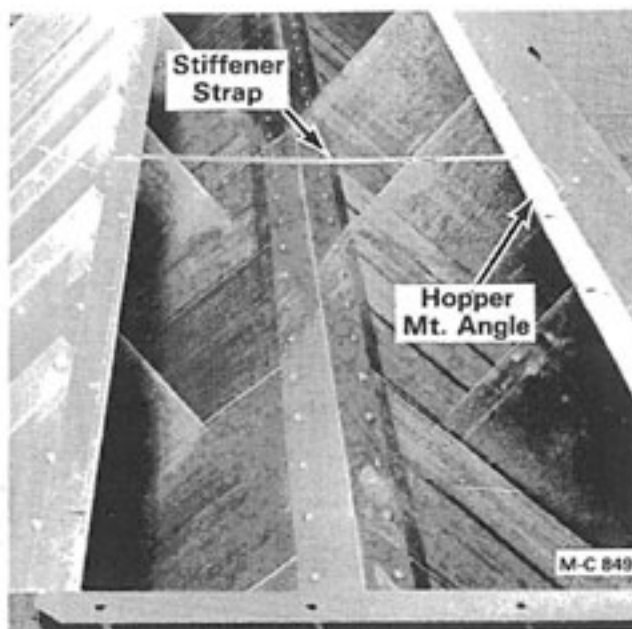

Figure 5
- Place a stiffener strap #1292947 28" (71cm) long across the center of each set of hopper mount angles bolted to the top of the outer screens. A 570/670/690 dryer requires (2) straps and a 970 dryer (3). See Figure 5.